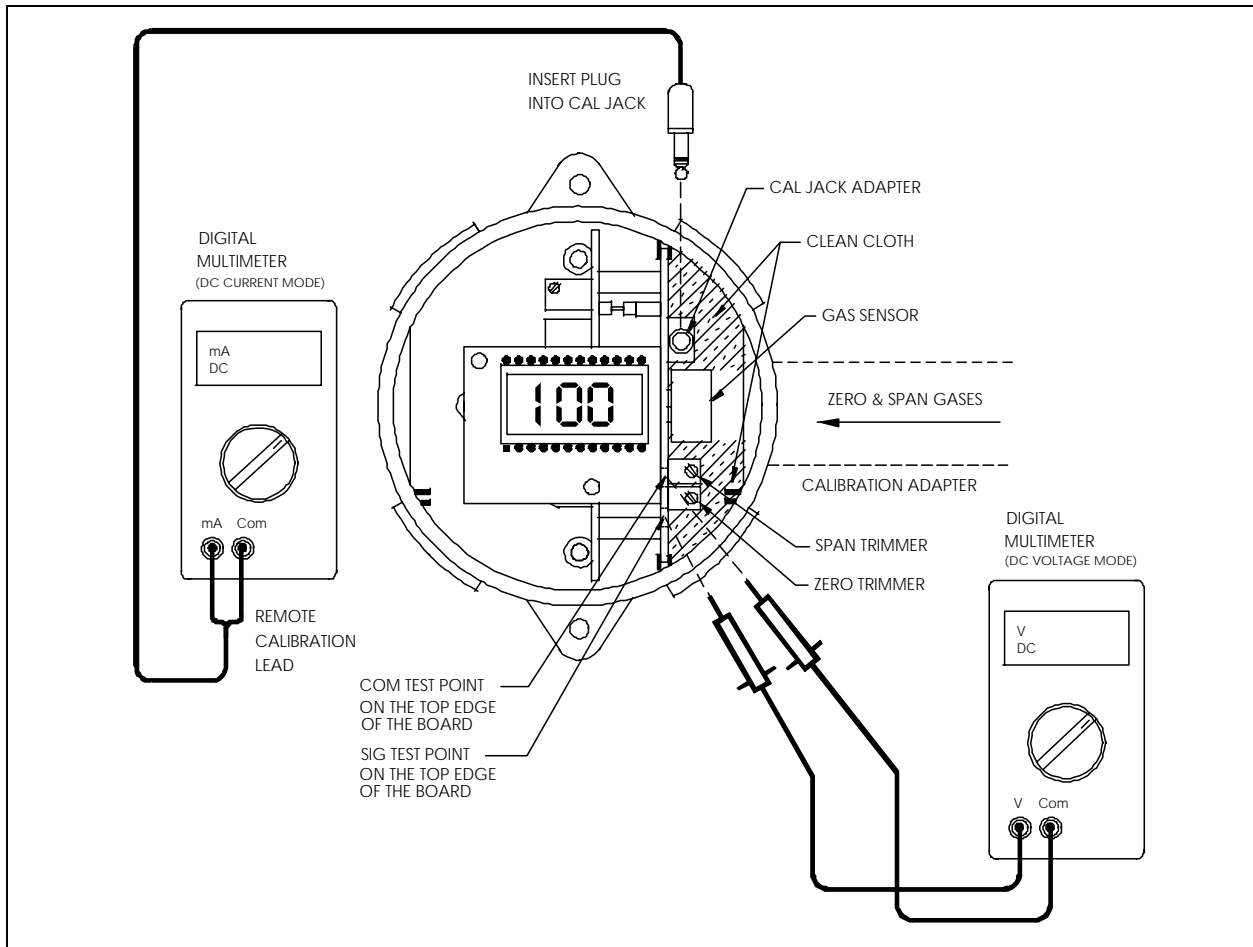

Figure 5-1 Calibration Procedure
Refer to Figure 5.1 to perform the following calibration procedure:
- 6) After 2 minutes adjust the Zero trimmer for a stabilized zero reading of 0.00 VDC measured at the test points (TP11, TP12.) see Figure 5-1 (except oxygen).